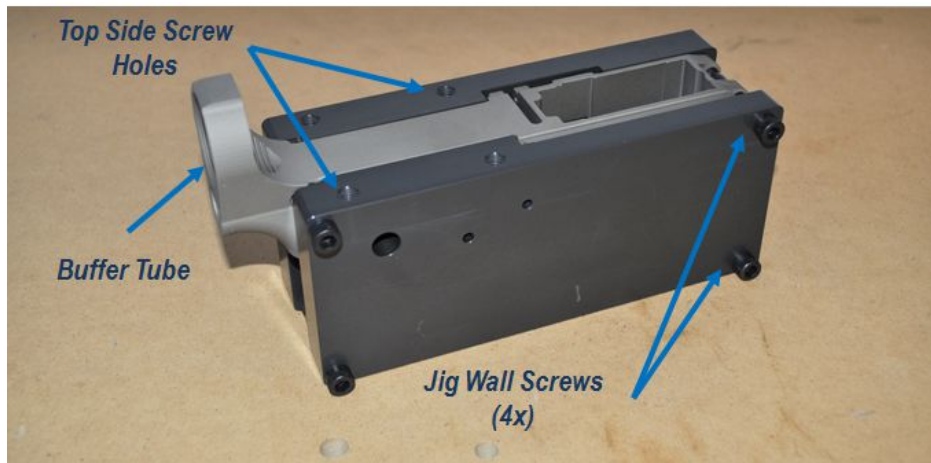

Figure 1.1: Left and right jig wall sandwiching the 80% lower, jig wall screws are in the standard position
- Sandwich the left and right jig wall parts on either side of the 80% lower as shown figure 1.1 and assemble using the four 2.5” jig wall screws. This is the jig screw standard position.